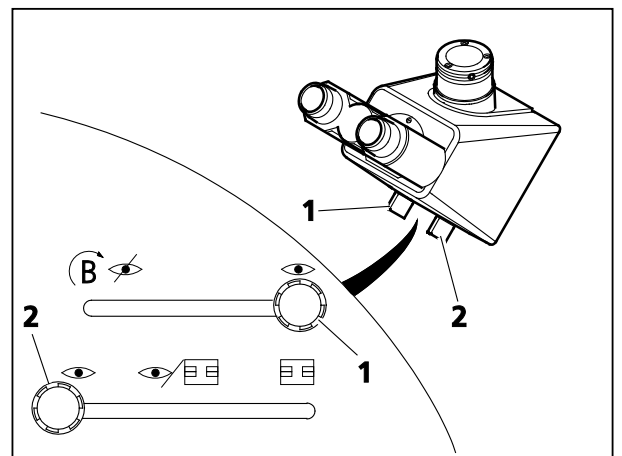

Fig. 72 Binocular tube 45°/23
Binocular phototube 45°/23 with sliding prism for vis / doc, Bertrand lens and manual vis shutter (Fig. 72)
- Switch the shutter on and off by sliding the rotary / sliding button (Fig. 72/1):
- Switch the beam path (sliding prism vis / doc) with the sliding button (Fig. 72/2):